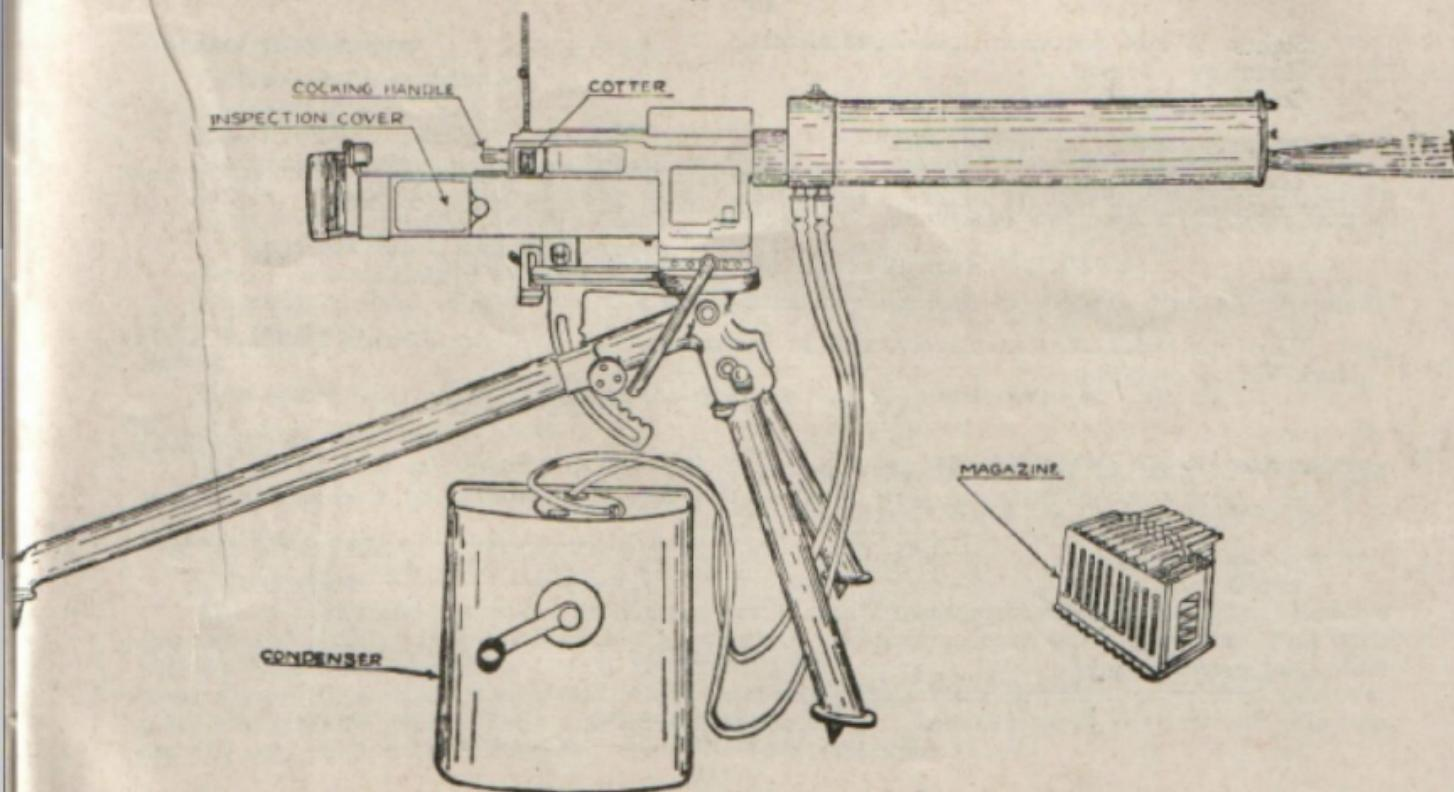

FIG. 10.—6.5 MM. M.M.G. MOD. 14—FIAT (REVELL)
18. 6.5 mm. Medium M.G., Mod. 14—Fiat (Revelli). (Fig. 10)